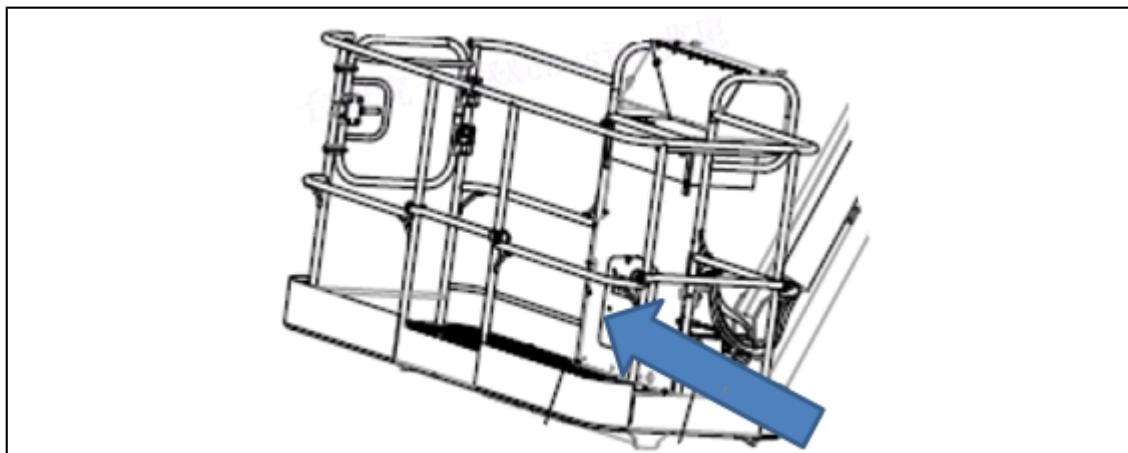

Figure 1-1 Designated storage location of this Instruction Manual on the machine is the box beneath work platform control box.
- It is mandatory to keep this always available to and maintenance personnel at the machine (**Figure 1-1**).